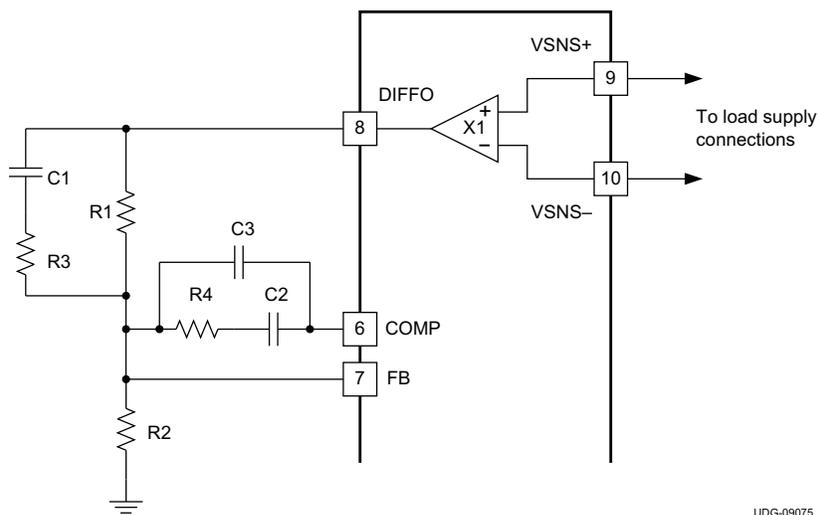

Figure 17. Setting the Output Voltage
The converter output voltage is set in a way that is similar to a traditional analog controller, by using a voltage divider from the output to the feedback (FB) pin. The output voltage must be divided down to the nominal reference voltage of 600 mV. Figure 17 shows the typical connections for the device. Using the unity gain differential voltage sense amplifier, the TPS40400 can regulate the voltage directly at the load. This method provides better load regulation for output voltages lower than 5-V nominal (see Electrical Characteristics table for the maximum output voltage of the differential sense amplifier). For output voltages above this level, connect the output voltage directly to the junction of the R1 resistor and the C1 capacitor, leave DIFFO open, and do not connect the VSNS inputs to the output voltage. In this case, it is also recommended to connect the VSNS+ pin to the BP3 pin and the VSNS– pin to GND. The differential amplifier may also be used as a voltage buffer, provided the electrical specifications are not exceeded
The components in Figure 17 that determine the nominal output voltage are R1 and R2. R1 is normally chosen to ensure that the feedback compensation values (R3, R4, C1, C2 and C3) are close to readily available standard values. R2 is then calculated in Equation 1.
The VOUT_TRIM command adjusts the nominal output voltage of the device. (See the VOUT_TRIM \(22h\) command description for the format of this command as used in the TPS40400 device.) The adjustment range is $\pm 25\%$ from the nominal output voltage. The VOUT_TRIM command is used to trim the final output voltage of the device without relying on high-precision resistors being used as described in the Figure 17 section. The resolution of the adjustment is 7 bits, with a resulting minimum step size of approximately 0.4%. The output margining function uses this same 7 bit structure so the total combined deviation from the nominal output for margining and VOUT_TRIM is still limited to $\pm 25\%$. Exceeding this range causes errors.
In order for the PMBus output voltage adjustments to function correctly, the VOUT_SCALE_LOOP parameter must be set properly. VOUT_SCALE_LOOP is a PMBus command (see Supported PMBus Commands) that reports the ratio of the voltage divider that sets the nominal output voltage is. The data for this command is the ratio of the divider that is used to set the output voltage. From Figure 17, VOUT_SCALE_LOOP parameter can be calculated using Equation 6.
- R2 and R1 are in consistent units from Figure 17
- (10)